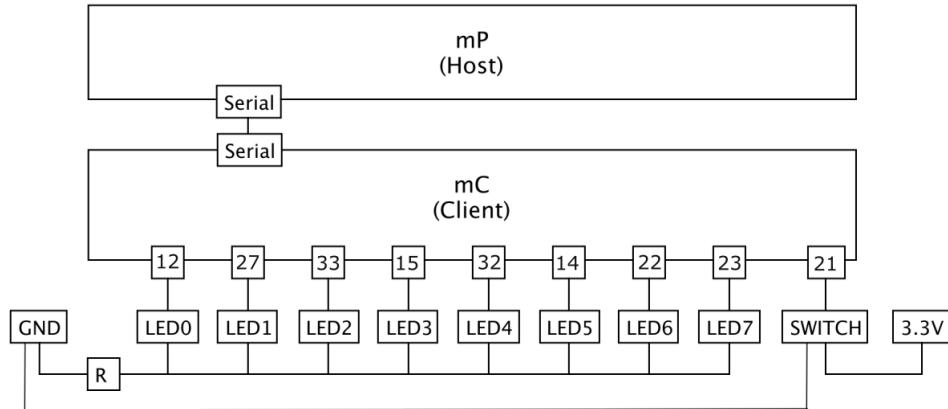

Figure 1.6: The circuit layout for this lab.
- Put the circuit given in figure 1.6 together. On your tables, you will find a group of cables put together along with the circuit elements you will need for this lab. Once you arrange the circuit elements (LED, switch, resistor, etc.) on the breadboard, you can plug the cables into the Feather Board and the breadboard. For the LEDs, use the pins indicated in the schematic. You will find that they correspond to the order of GPIO pins on the Feather; for the switch use GPIO pin 21 on the Feather Board. Make sure your 3.3V output is **not** connected directly to the ground. This could cause the current to flow back into your laptop and damage it. **Make sure to connect the cable from the GPIO 21 pin to the central pin of the switch.**